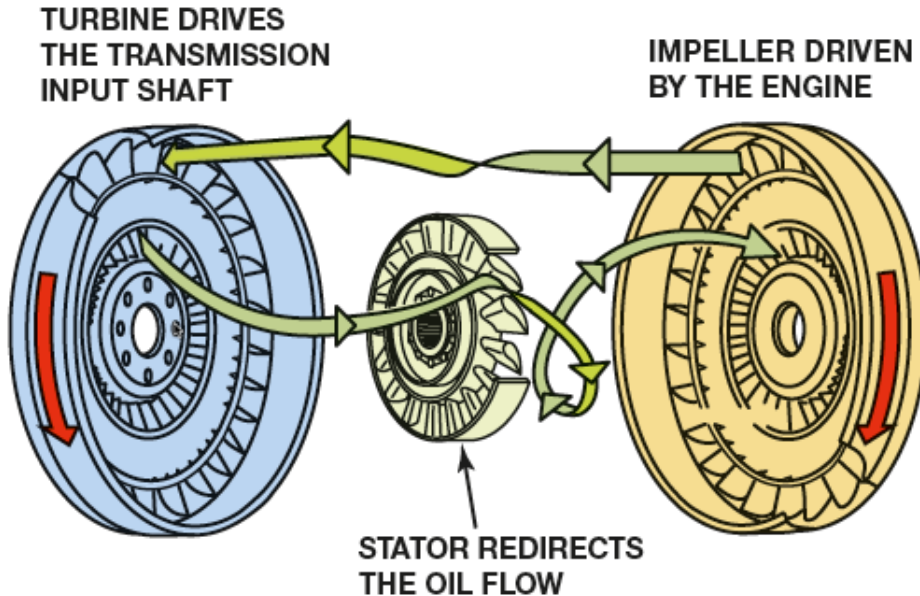

Figure 9. Basic torque converter (no clutch shown).
- Stator. A torque converter also contains the stator, or reactor, which is mounted on a one-way clutch. The stator is the reaction member of the torque converter. The one-way clutch allows the stator to rotate clockwise but blocks counterclockwise rotation. Figure 9.